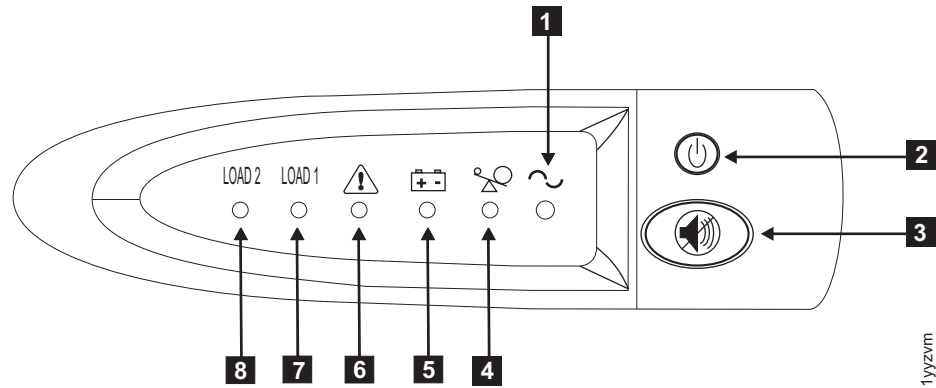

Figure 191. Power switch and indicators of the 2145 UPS-1U
The 2145 UPS-1U is now in standby mode with the SAN Volume Controller offline. All indicators that are shown in Figure 191 on page 453 are off.
12. To turn the 2145 UPS-1U on, press and hold the on/off button **2**. See Figure 191 on page 453. The 2145 UPS-1U undergoes a self-test, taking approximately five seconds, before the power-on indicator **1** and the load indicators (**7** and **8**) light up permanently to indicate that the 2145 UPS-1U is supplying power to the SAN Volume Controller. The 2145 UPS-1U begins to charge its battery while in normal mode.